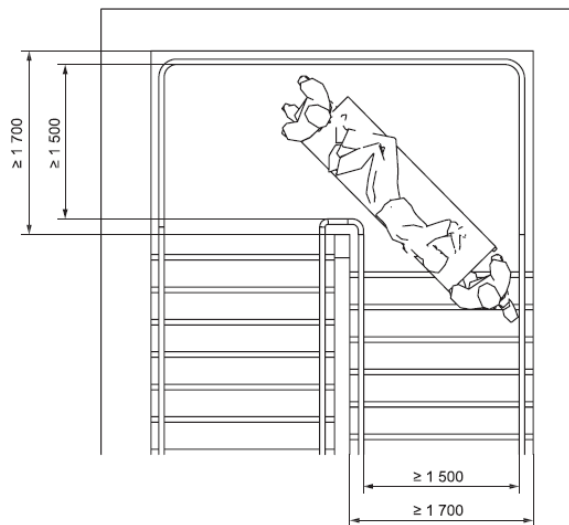

Figure 22: Example of Stair and 180° Landing for Emergency Access
- Half landings/180° turns: Minimum 1500 mm width (see Figure 22)